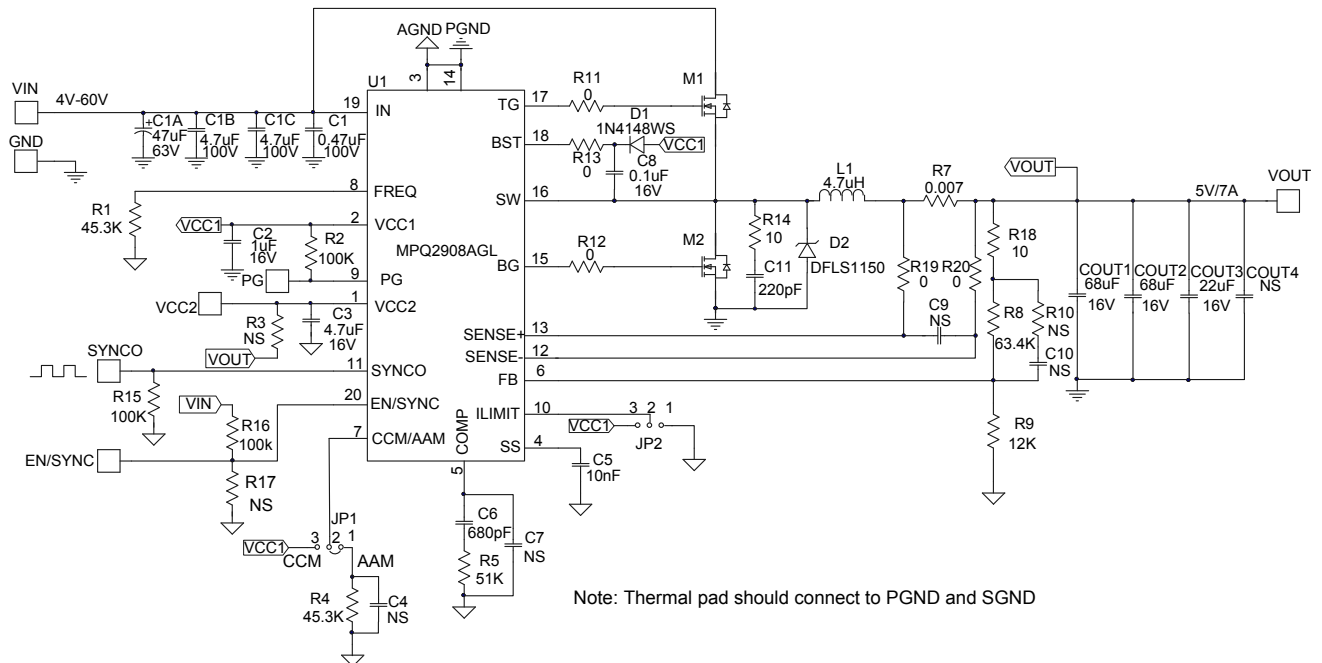

Figure 14: 5V Output Application Circuit for QFN Package
- 7) The recommended PCB layout is based on Figure 14.